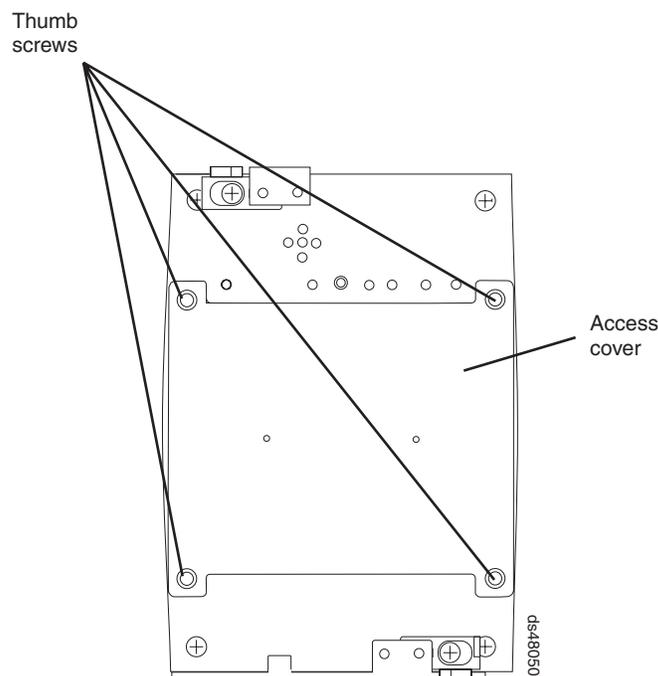

Figure 85. Battery access cover on the interconnect-battery unit
7. Remove the battery access cover from the front of the interconnect-battery unit by removing the thumb screws that secure the cover to the component. Figure 85 shows the access cover and mounting screws on the interconnect-battery unit.